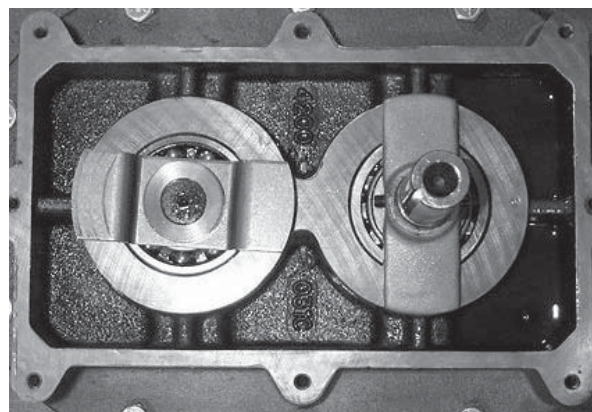

Figure 8-5 – Set Screws for Slingers
11. Loosen the set screws on the oil slingers and remove the oil slingers from the rotor shafts (see **Figure 8-5**).